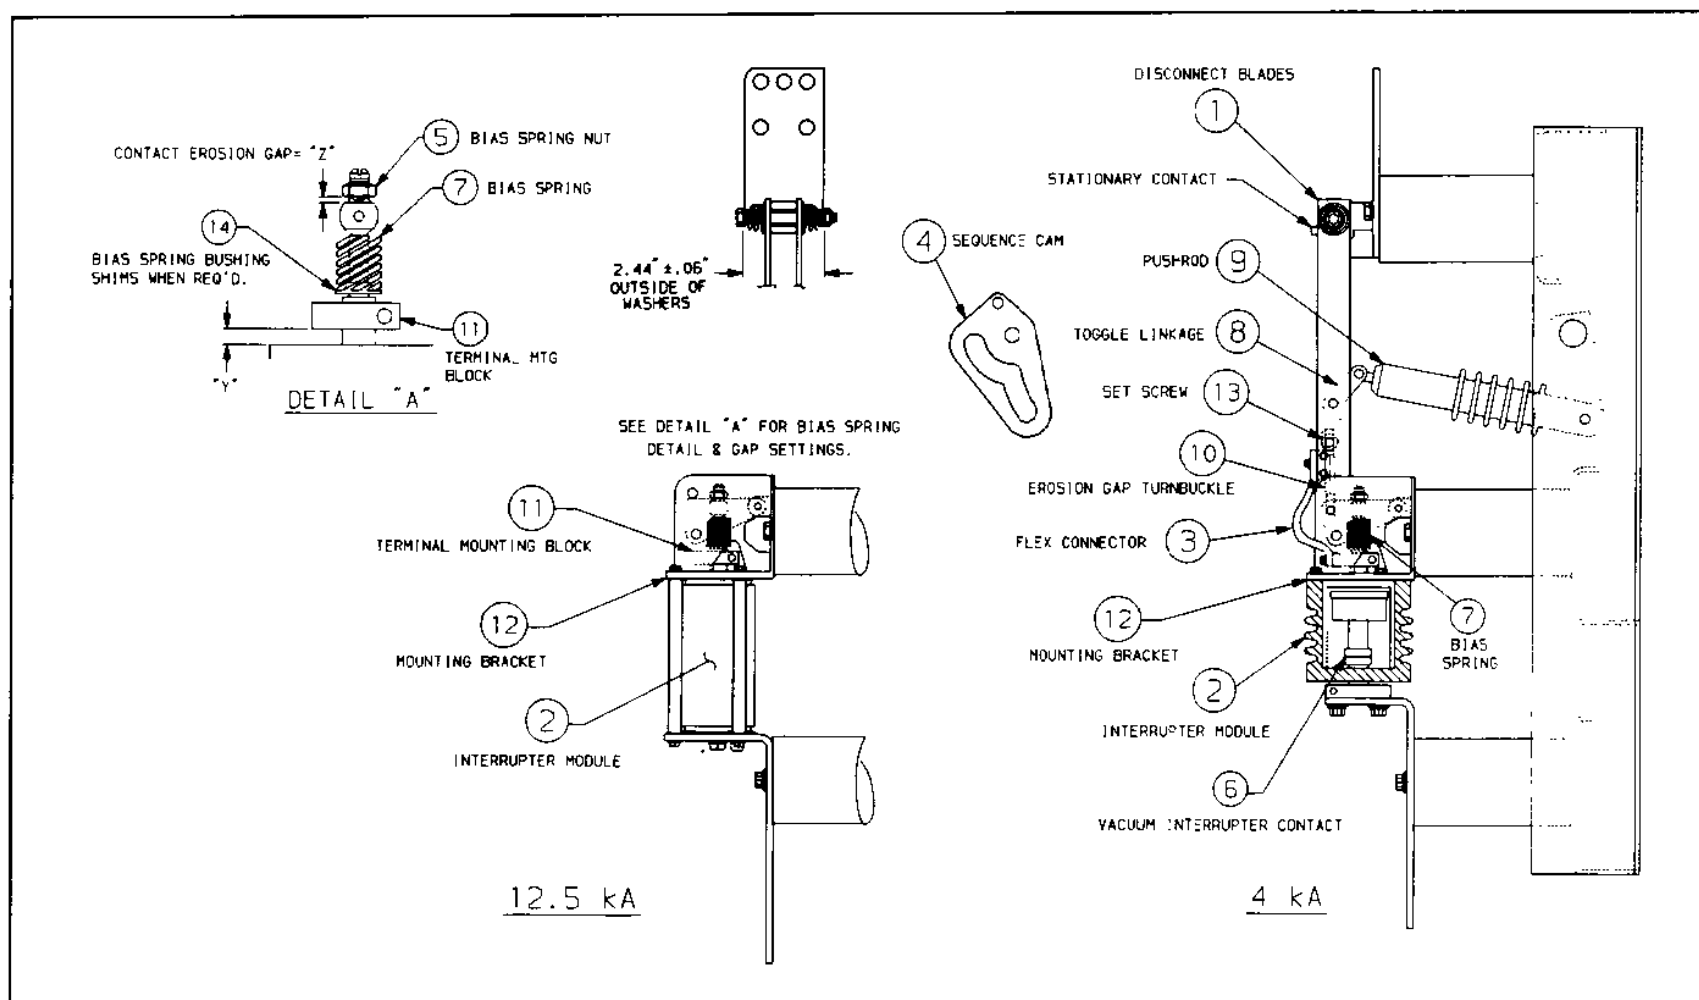

Figure 7
Noting Figure 7, each of the three identical pole units consist of a set of visible disconnect blades (#1) in series with a vacuum interrupter module (#2). The connection between the blades
The circuit interrupter must be in the closed position and the pole mechanism "in toggle" (See Figure 12). To determine the amount of vacuum interrupter module contact erosion, measure accurately dimension "y" (See Figure 7) on the pole assembly. (Measure at right side, inboard corner of the terminal mounting block #11 through the opening in the right side of the mounting bracket #12.) Subtract the dimension measured from the value of "y" recorded on the vacuum interrupter module assembly. The result is the cumulative erosion since initially manufactured. Should this calculated erosion value exceed the values below, the pole unit should be replaced.
Dimension "Z" (contact erosion gap, Figure 7) will also indicate the contact erosion present but does not indicate the *cumulative* value if the gap has been re-adjusted since the device was manufactured.
POLE UNIT ADJUSTMENTS (FIGURE 7)
b. Adjust clamping force on stationary contact jaw by adjusting distance between outside surfaces of spring returning washers to 2.44" ± 0.06" as shown in Figure 7.